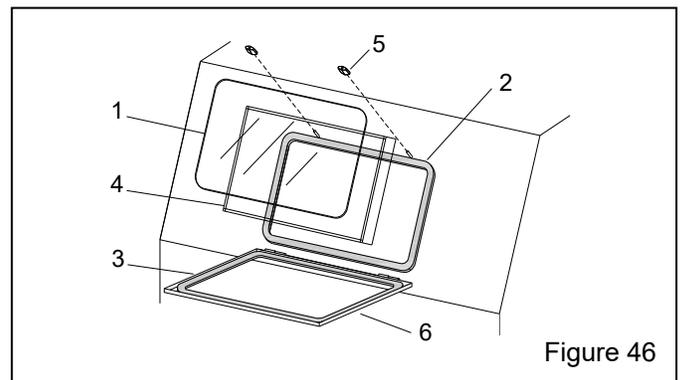

Figure 46
**9.6 View-Window Assembly – Figure 46**